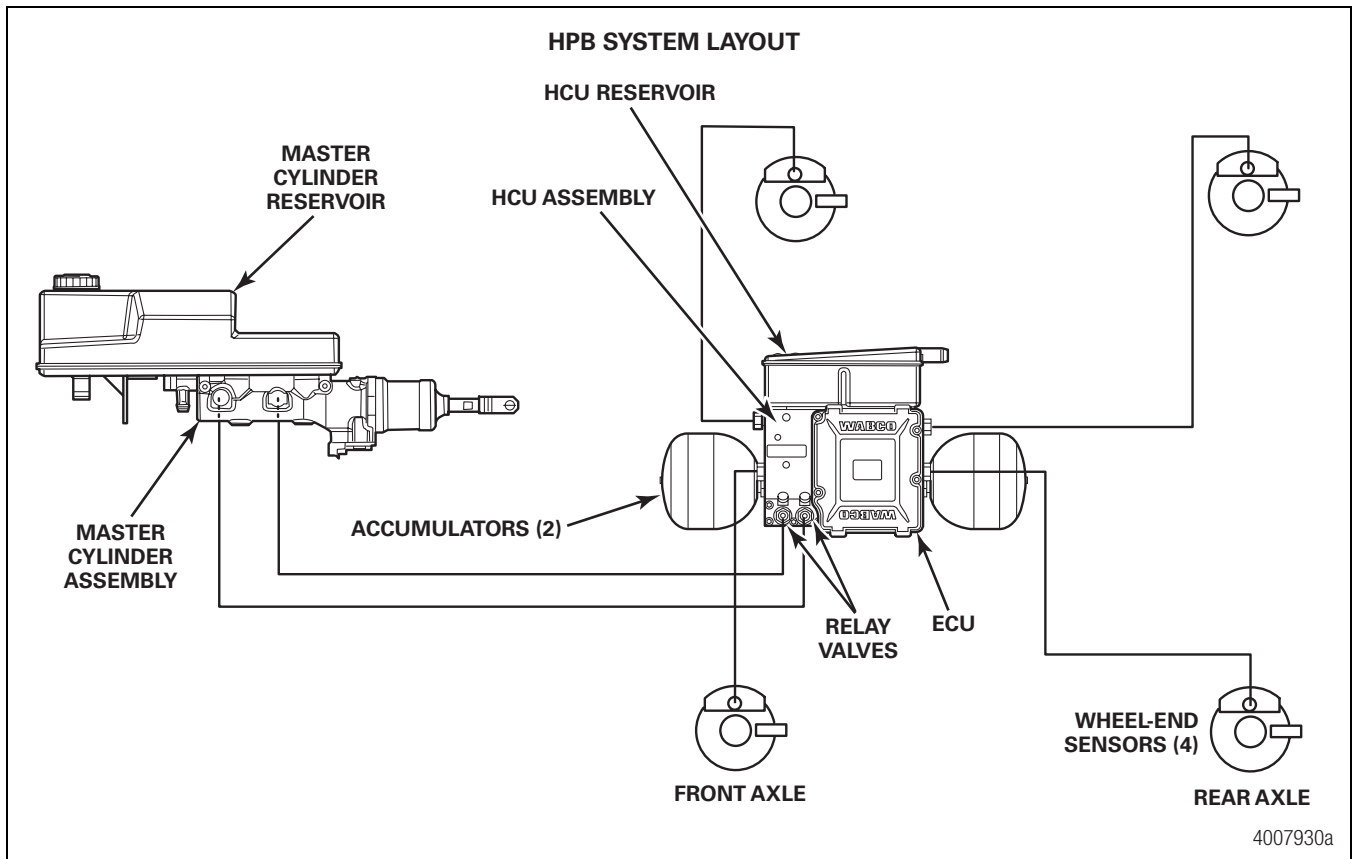

Figure 13
10. Repeat the bleed procedures for the second relay valve bleeder. Continue bleeding the system with the calipers (order right rear, left rear, right front and left front). Refer to the Maintenance Manual MM-0401 for complete bleed procedures. Figure 13.